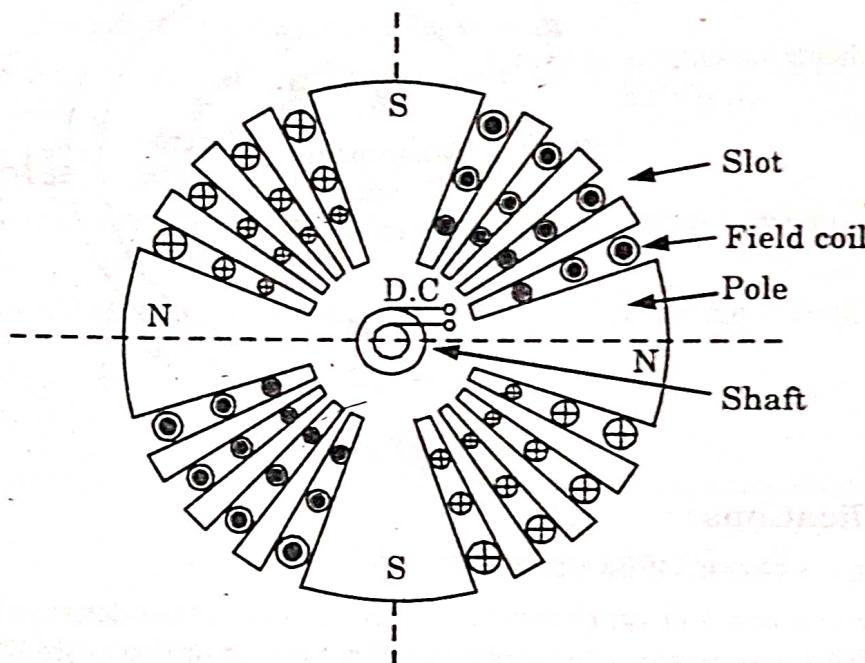

**Fig. 1.1.2. Salient pole rotor.**
2. The poles are built up of thick steel laminations. The poles are bolted to the rotor as shown in the Fig. 1.1.2. The pole face has been given a specific shape. The field pole winding is provided on the pole shoe.